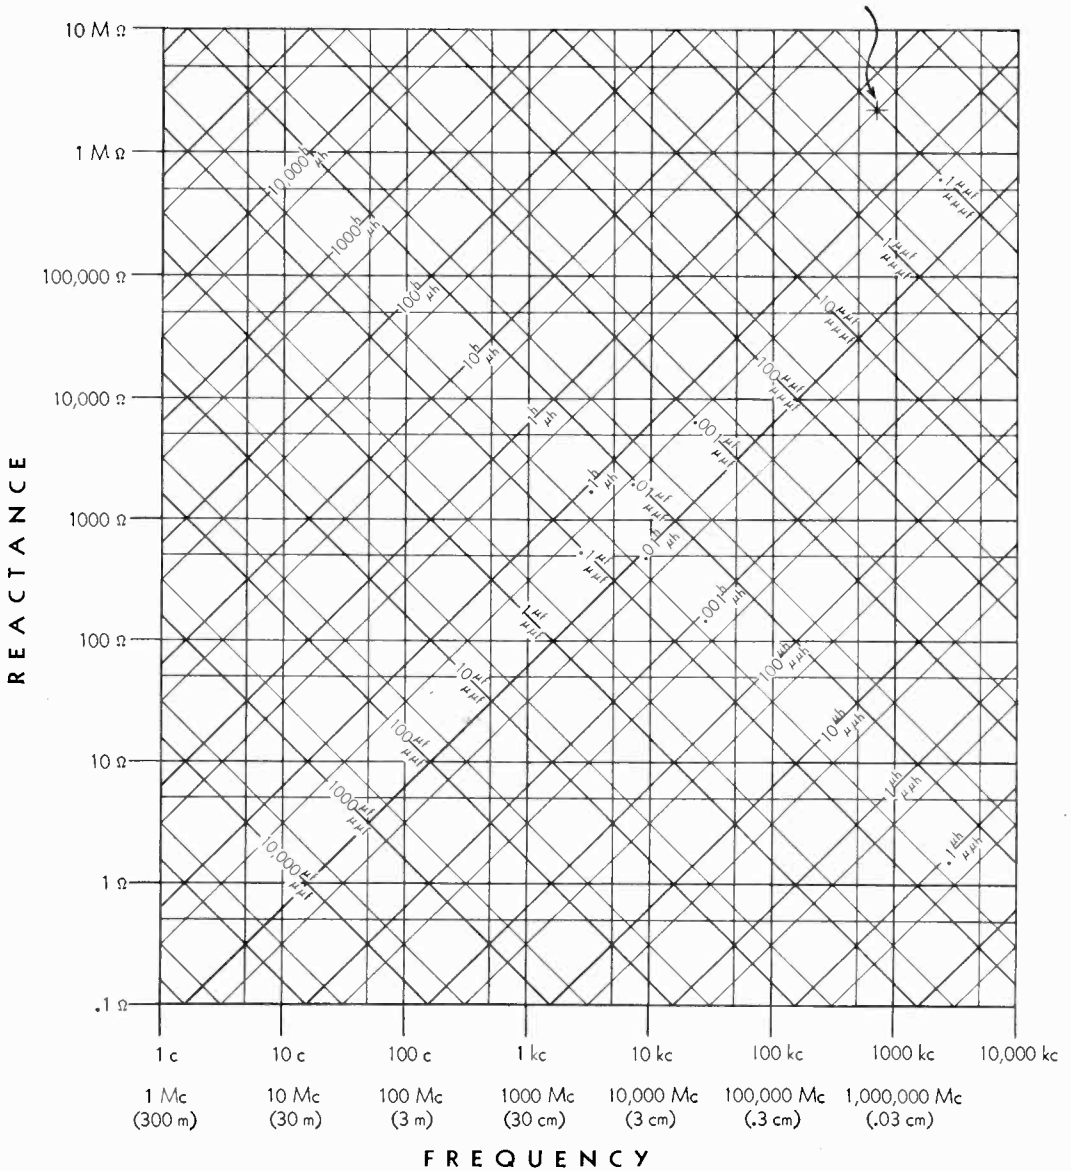
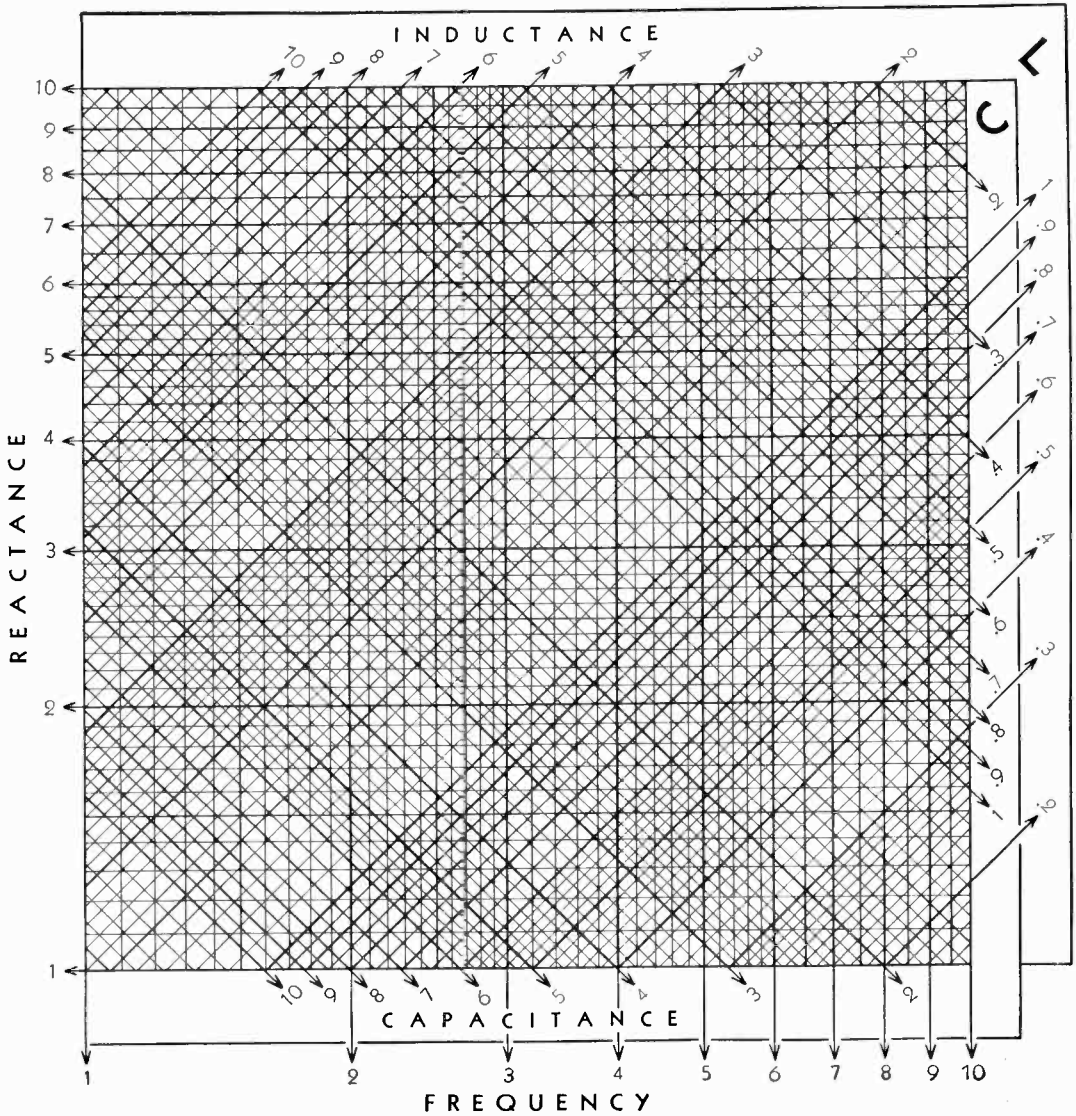

FIG. 1
FIG. 2
In order to facilitate the determination of magnitude of the quantities involved to two or three significant figures the chart is divided into two parts. Figure 1 is the complete chart to be used for rough
calculations. Figure 2, which is a single decade of Figure 1 enlarged approximately 7 times, is to be used where the significant two or three figures are to be determined.
Always obtain approximate value from Figure 1 before using Figure 2
*Example:* The sample point indicated (Figure 1) corresponds to a frequency of about 700 kc and an inductance of 0.5 henry, or a capacitance of 0.1  $\mu\mu\text{f}$ , giving in either case a reactance of about 2,000,000 ohms. The resonant frequency of a circuit containing these values of inductance and capacitance is, of course, 700 kc, approximately.
**USE OF FIGURE 2**
Figure 2 is used to obtain additional precision of reading but does not place the decimal point which must be located from a preliminary entry on Figure 1. Since the chart necessarily requires two logarithmic decades for inductance and capacitance for every single decade of frequency and reactance, unless the correct decade for L and C is chosen, the calculated values of reactance and frequency will be in error by a factor of 3.16.